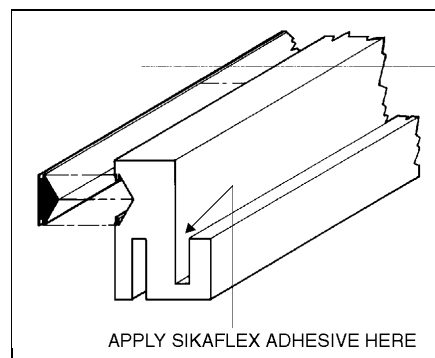

FIGURE 60: WINDSHIELD 18103
7. Apply Sikaflex-255 FC adhesive all around the rubber extrusion in the channel for the windshield opening flange. See figure 60.